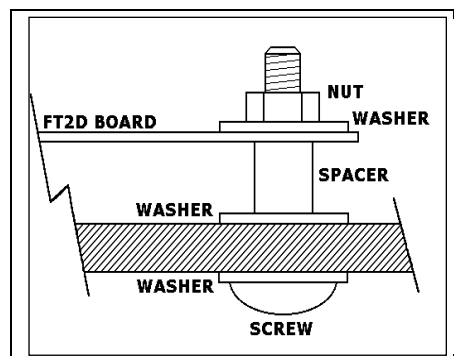

Figure 3.5
Step 13: Using the supplied screws, washers, spacers and nuts fasten the FT2D interface board to the holes drilled in Step 12. See Figure 3.5.